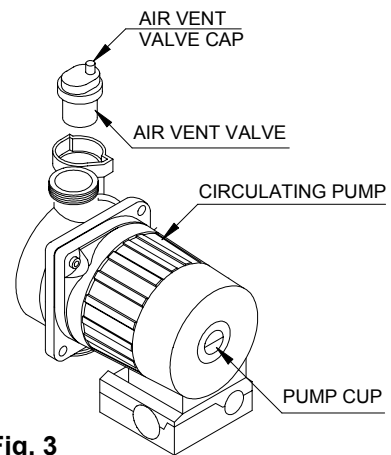

Fig. 3
- make sure the cap on the jolly valve is slightly loose to allow air to escape from the system (see fig. 3).